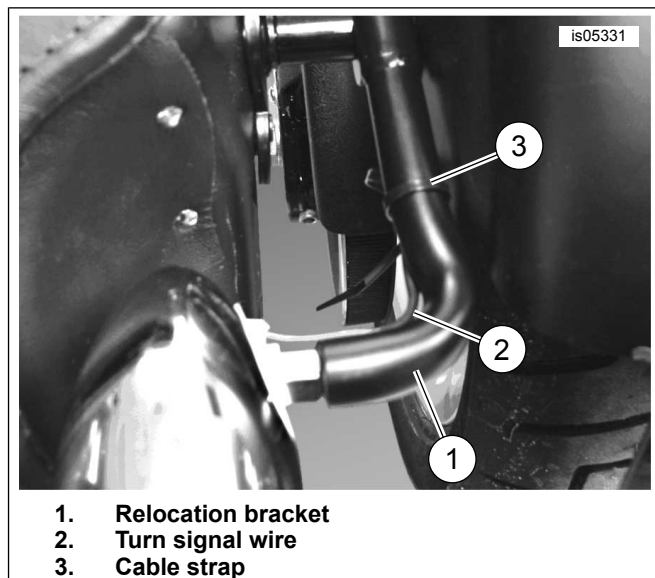

Figure 3. Wire Routing Along Bracket
1. See Figure 3. Route the turn signal wire (2) along the underside of the relocation bracket (1). Tie the wire to the bracket, just forward of the 90 degree bend, with a cable strap (3) from the kit.